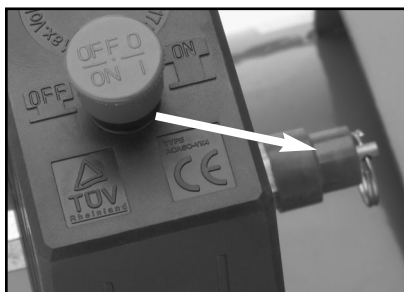

Figure 7. Safety drain valve.
1. Locate the safety drain valve on the tank. The drain valve is shown below in **Figure 7**.